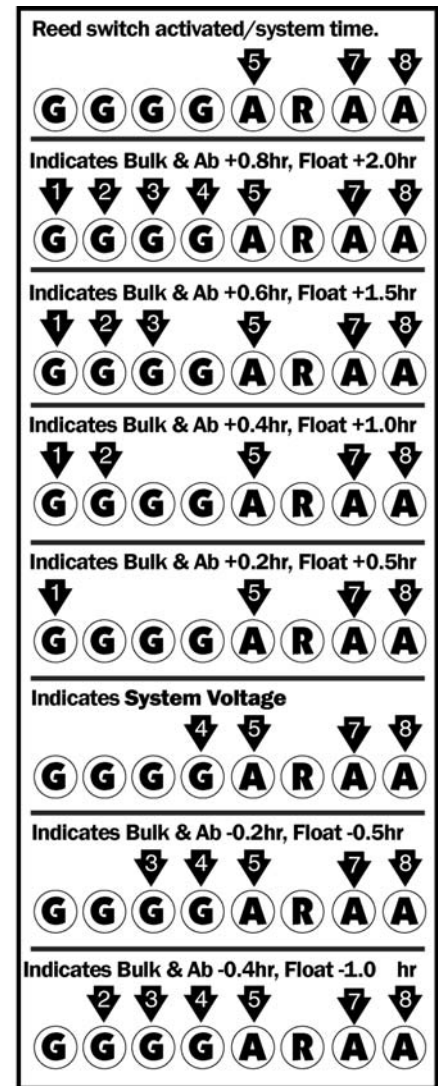

Figure 16 - LED display indicating advanced system time adjustment.
1. When the LED display indicates entry into the system time adjustment mode, as shown in **Figure 16**, ACTIVATE-HOLD the switch with your magnet. The display will cycle up through the values shown in Figure 16. NOTE: To reverse scrolling direction, release the switch, wait until the green lights turn off, and re-activate and hold the switch to cycle the opposite direction. Keep in mind that the display has been programmed to provide approximately five seconds between value changes.